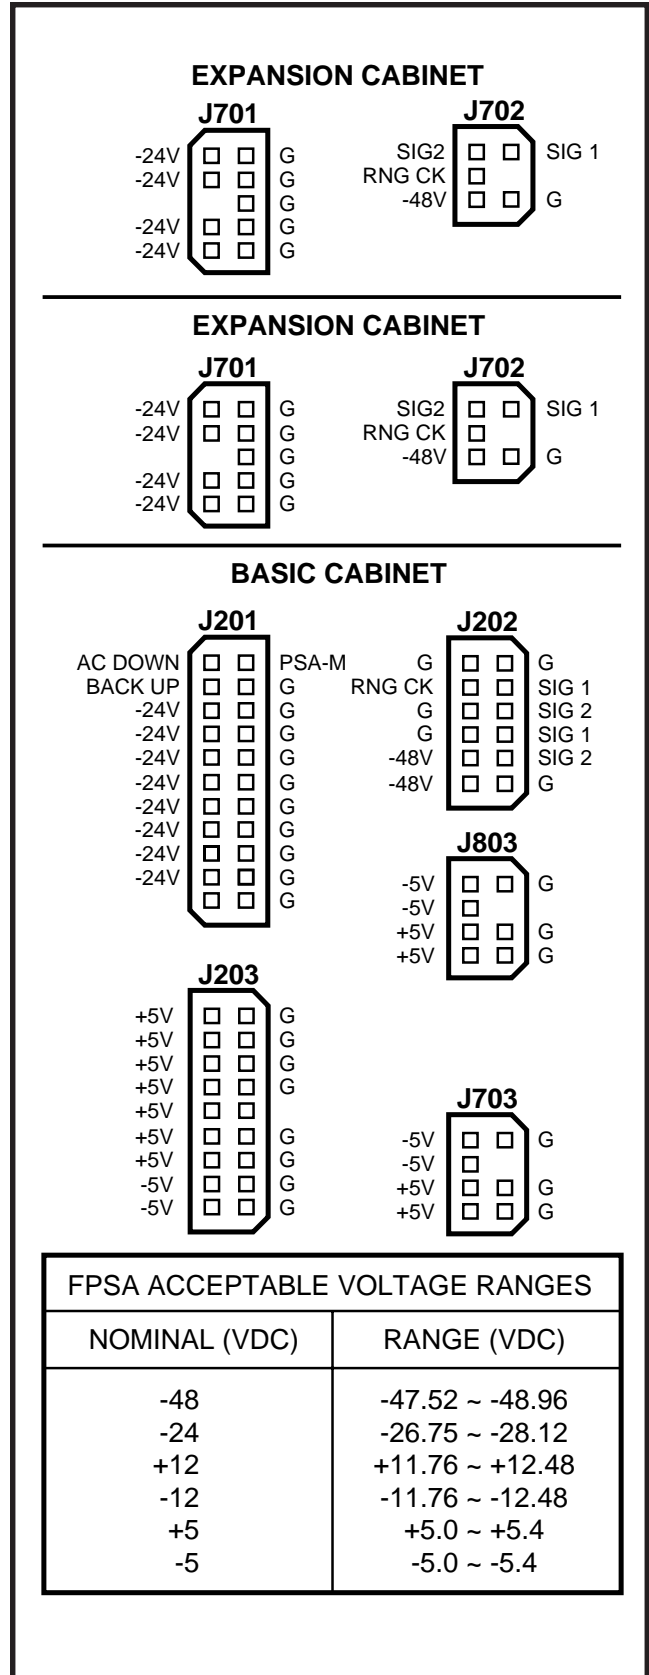

FIGURE 4-9—PERCEPTIONex VOLTAGE CHECKS
- 13) Using a multimeter (set to the appropriate ranges), check the pins on connectors **J201**, **J202**, **J203**, **J703** and **J803** for the voltages shown in Figure 4-9. (The connectors are on the rear of the power supply chassis.) Measure between the voltage pin and a ground pin. (All ground leads are tied to a single point, so any can be used.) Figure 4-9 also shows the acceptable range for each output voltage. If a measured voltage falls outside of the acceptable range, replace the main power supply.
- 14) Turn the power supply **OFF** and then connect **J201**, **J202** and **J203**, respectively, as shown in Figure 4-9.
- 16) Using a multimeter (set to the appropriate ranges), check the pins on connectors **J701** and **J702** on the secondary power supply for the voltages shown in Figure 4-9. (The connectors are on the rear of the power supply chassis.) Measure between the voltage pin and a ground pin. (All ground leads are tied to a single point, so any can be used.) Figure 4-9 also shows the acceptable range for each output voltage. If a measured voltage falls outside of the acceptable range, replace the secondary power supply.